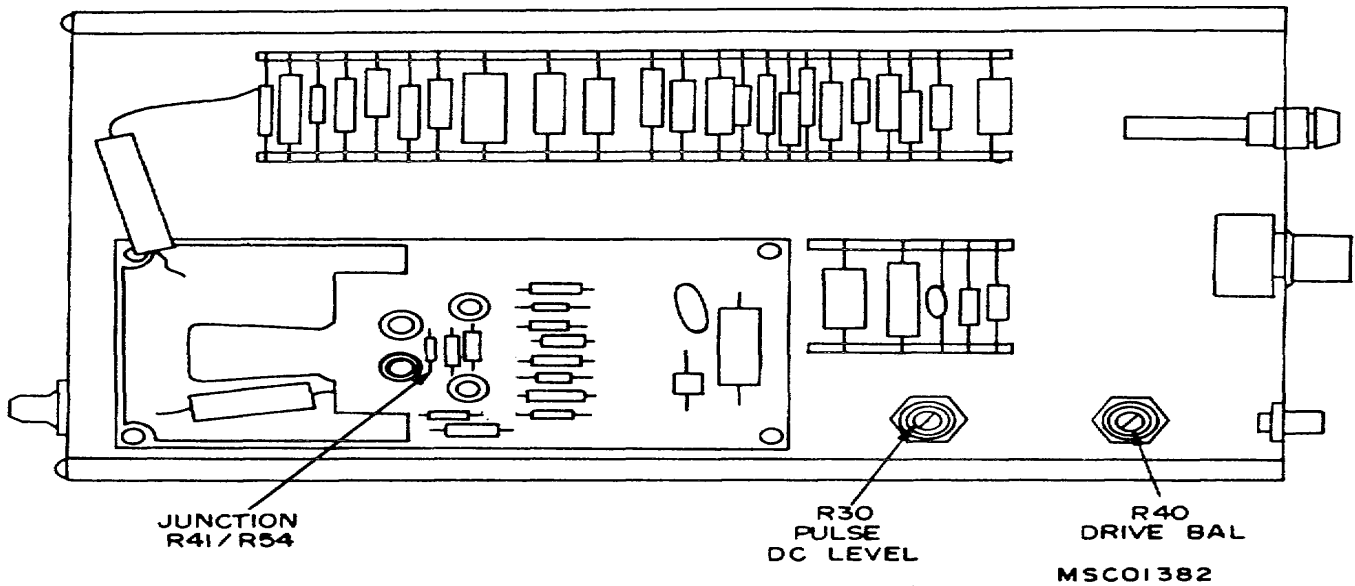

Figure 2. Calibration adapter - left side view.
(3) Set TI TEST FUNCTION switch to + PULSE.
(4) Adjust voltage standard (A8) for a 95-volt dc output.
(5) Adjust TI AMPLITUDE control for 2 centimeters of vertical deflection on oscilloscope (A3) crt and adjust both POSITION controls to superimpose CH1 and CH2 signals. If signals cannot be adjusted for 2 divisions of superimposed (equal) amplitude, disregarding overshoot at leading and trailing edges, perform b (1) below.
(6) Connect dc voltmeter (.A2) to TI junction R41/R54 (fig. 2) and chassis ground. using probe (B7). If dc voltmeter does not indicate between 66.00 and 69.00 volts, perform b(2) and (3) below.
(7) Remove probe connected in (6) above.
(1) Adjust DRIVE BAL R40 (fig. 2) and both POSITION controls until CHI and CH2 signals are superimposed.
(2) .Adjust PULSE DC LEVEL R30 (fig. 2) until dc voltmeter indicates between 66.00 and 69.00 volts.
(3) Due to interaction of adjustments, repeat (1) and (2) abode for optimum results.